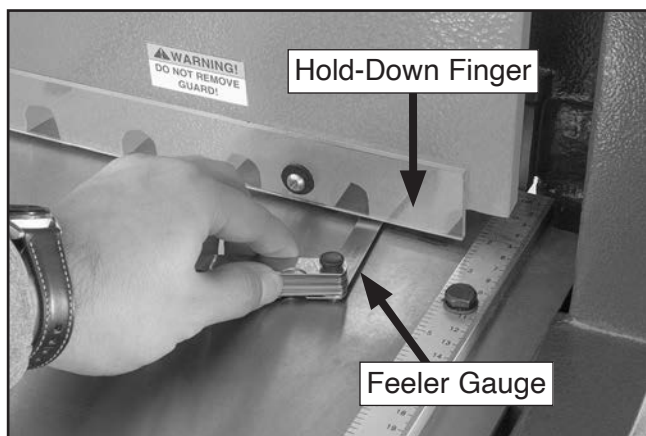

Figure 41. Using feeler gauge to check blade guard clearance.
2. Insert largest feeler gauge that will fit between hold-down finger and table on right end of blade guard (see **Figure 41**).